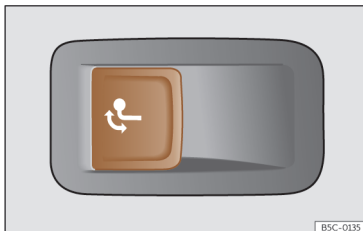

Fig. 203 Left side of the luggage compartment: button to unlock the tow hitch.
- Pull the >>> **Fig. 203** button briefly. The tow hook unlocks electrically and automatically turns outwards. The button's control lamp flashes.
- Pull the >>> **Fig. 203** button briefly. The tow hook unlocks electrically.
- Never press the button >>> Fig. 203 when there is a trailer hooked to the vehicle or when a carrier system or other accessories are mounted on the tow hook.